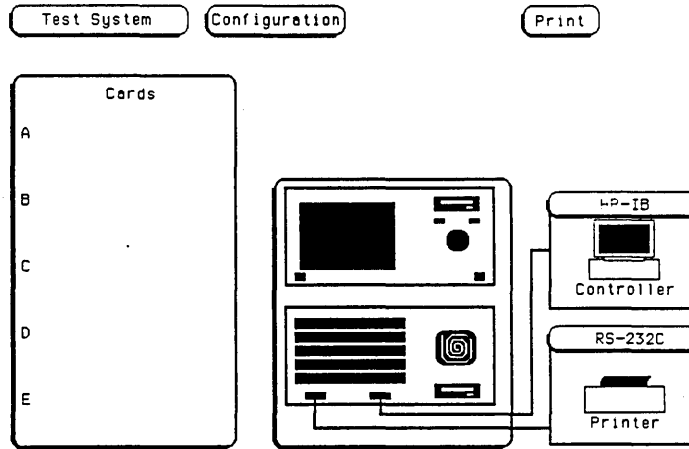

Figure 6-6. Test System Configuration
d. After the test software has been loaded, the Test System Configuration Menu will be displayed (figure 6-6).